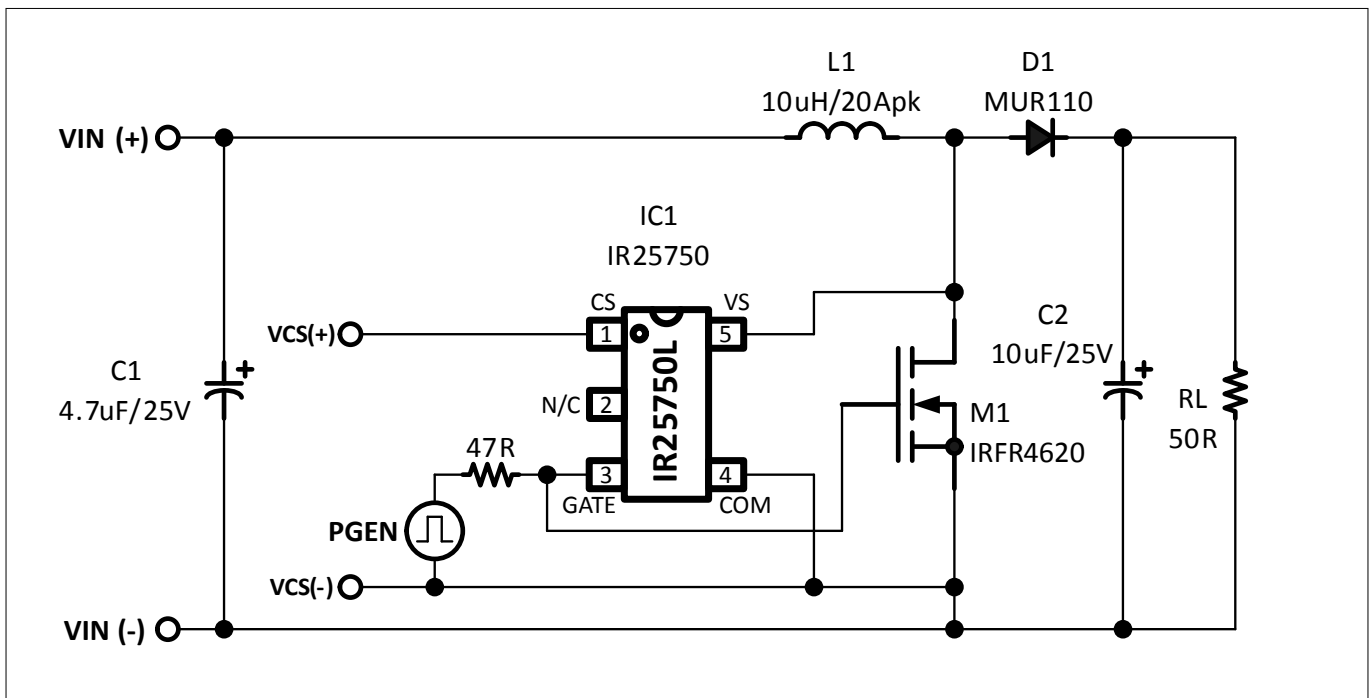

Figure 3 VDS(on) sensing test circuit
A test circuit has been implemented for sensing current in a power MOSFET during switched-mode operation. The circuit includes (Figure 3) the power MOSFET (M1), the IR25750L (IC1), a high-current power inductor (L1), a high-current fast diode (D1), a d.c. input voltage (VIN), an output capacitor (C2) and parallel load resistor (RL), and a one-shot on/off gate pulse generator (PGEN). When M1 is turned on at the gate from the PGEN, current flows from the input voltage (VIN+), through L1, through M1, and to ground (VIN-). The inductor current ramps up linearly to a peak level and M1 is then turned off. During the off-time, the current flows through L1, through diode D1, through the output capacitor (C2) and load resistor (RL), and to ground. The IR25750L is connected in parallel to M1 with the drain connected to the VS pin and the source connected to the COM pin. A one-shot pulse generator (PGEN) is then connected through a 47 ohm gate resistor to the GATE pin of the IC and to the gate of the MOSFET. The on-time of the MOSFET can be set using the PGEN and the VDS(on) is then measured between the CS pin (VCS+) and COM (VCS-). Important to note is that the COM pin should be connected with a separate trace to the source of the MOSFET, and, the COM pin trace should also be used as the measurement ground (VCS-) for the VCS measurement. Do not connect the VCS measurement ground to the power ground, otherwise unwanted inductive high-frequency noise can occur on the VCS measurement and can cause voltage spikes, signal distortion, or false triggering of the peak current detection circuitry. Also, the gate resistor must always be placed before the IR25750L and the MOSFET gate to ensure that the IR25750L turns on a short delay time (200 nsec) after the MOSFET turns on.